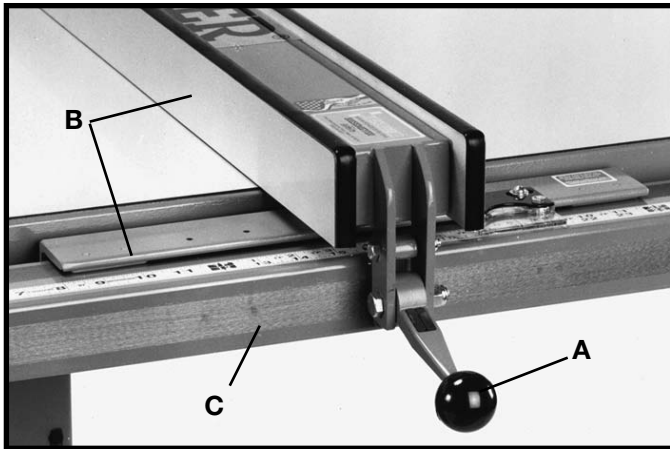
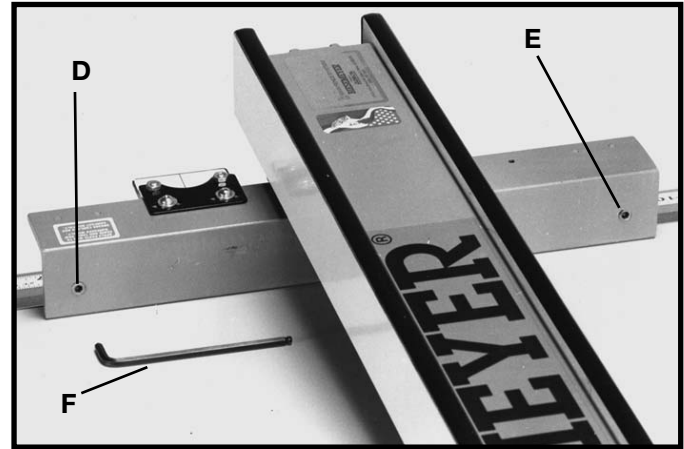

Fig. 147
Fig. 148
When the fence locking handle (A) is pushed to the down position, (Fig. 147), the fence assembly (B) should be completely clamped to the guide tube (C). If the fence assembly (B) is not completely clamped to the guide tube (C) when the handle (A) is pushed down, as shown in Fig. 147, lift up handle (A) and raise fence assembly (B) up off the guide tube (C). Slightly tighten the two adjusting screws (D) and (E) Fig. 148, using the 3/16" allen wrench (F) not supplied. **Adjusting screws (D) and (E) Fig. 148, should be tightened an equal amount.** Replace fence onto the guide tube and re-check to see if the fence assembly (B) Fig. 147 is completely tightened to the guide tube (C) with the locking handle (A) pushed down. Adjust further if necessary. **IMPORTANT: AFTER ADJUSTING THE CLAMPING ACTION OF THE FENCE LOCKING HANDLE, CHECK TO SEE IF THE FENCE IS PARALLEL TO THE MITER GAGE SLOT AND ADJUST IF NECESSARY.**